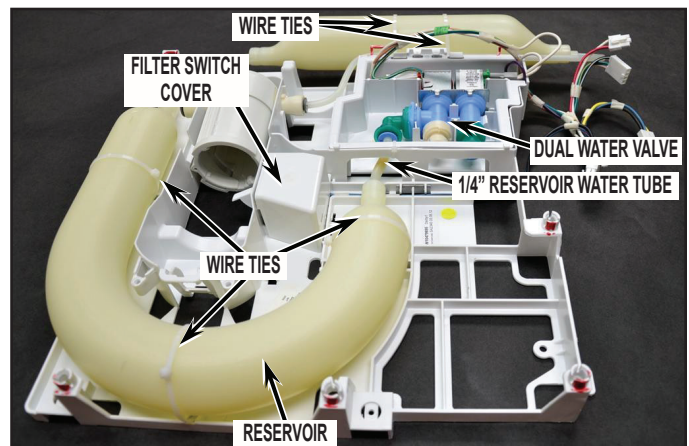

FIGURE 13
**NOTE:** Reservoir wire ties do not need to be removed to access remaining water reservoir and valve assembly components. See *Figure 13*.